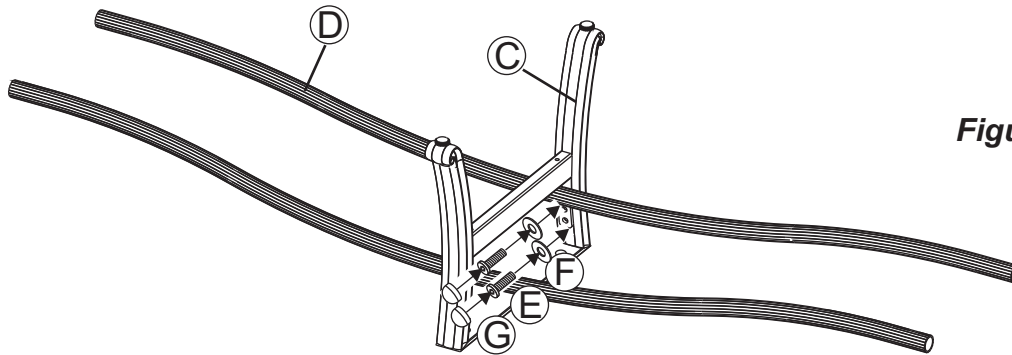

Figure 1
- 1 Attach a leg connector bar to the middle leg by using the bolts and washers as shown in **Figure 1**. Guide the bolts through the holes in the leg connector bar, into the pre-drilled holes in the middle leg. **Hand tighten only 2-3 turns**. Repeat for the other leg connector bar.